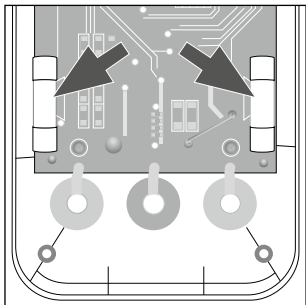

Fig. 6
- ◆ Replace the defective fuse F1 (F 250 mA/300 V) or F2 (F 10 A/300 V) with a new fuse of the same type (see Fig. 6).